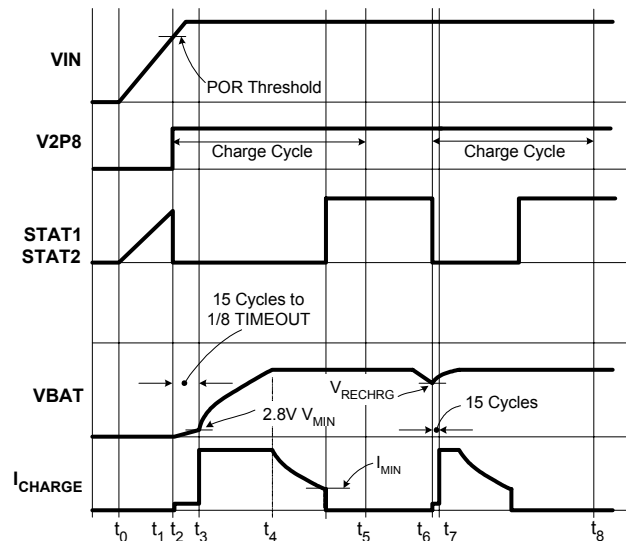

FIGURE 4. OPERATION WAVEFORMS
Figure 4 illustrates the typical signal waveforms for the linear charger from the power-up to a recharge cycle. More detailed Applications Information is given below.
The ISL6292D resets itself as the input voltage rises above the POR rising threshold. The V2P8 pin outputs a 2.8V voltage, the internal oscillator starts to oscillate, the internal timer is reset, and the charger begins to charge the battery. The two indication pins, STAT1 and STAT2, indicate LOW. Figure 4 illustrates the start up of the charger between t_0 to t_2 .
A charge cycle consists of three charge modes: trickle mode, constant current (CC) mode, and constant voltage (CV) mode. The charge cycle always starts with the trickle mode until the battery voltage stays above V_{MIN} (2.8V typical) for 15 consecutive cycles of the internal oscillator. If the battery voltage drops below V_{MIN} during the 15 cycles, the 15-cycle counter is reset and the charger stays in the trickle mode. The charger moves to the CC mode after verifying the battery voltage. As the battery-pack terminal voltage rises to the final charge voltage V_{CH} , the CV mode begins. The terminal voltage is regulated at the constant V_{CH} in the CV mode and the charge current is expected to decline. After the charge current drops below I_{MIN} , the ISL6292D indicates the end-of-charge (EOC) with the STAT1 or STAT2 pin and terminates. Signals in a charge cycle are illustrated in Figure 4 between points t_2 to t_5 .
After a charge cycle completes, charging is prohibited until the battery voltage drops to a recharge threshold, V_{RECHRG} (see Electrical Specifications). Then a new charge cycle starts at point t_6 and ends at point t_8 , as shown in Figure 4. The safety timer is reset at t_6 .
The trickle mode charge has a time limit of 1/8 TIMEOUT. If the battery voltage does not reach V_{MIN} within this limit, a TIMEOUT fault is issued and the charger latches up. The charger stays in trickle mode for at least 15 cycles of the internal oscillator and, at most, 1/8 of TIMEOUT, as shown in Figure 4.
The end-of-charge current I_{MIN} sets the level at which the charger indicates the end of the charge with the STAT1 and STAT2 pins, as shown in Figure 4. The charger terminates at this moment. The I_{MIN} is set in two ways, by connecting a resistor between the IMIN pin and ground, or by connecting the IMIN pin to the V2P8 pin. When programming with the resistor, the I_{MIN} is set in the equation below.